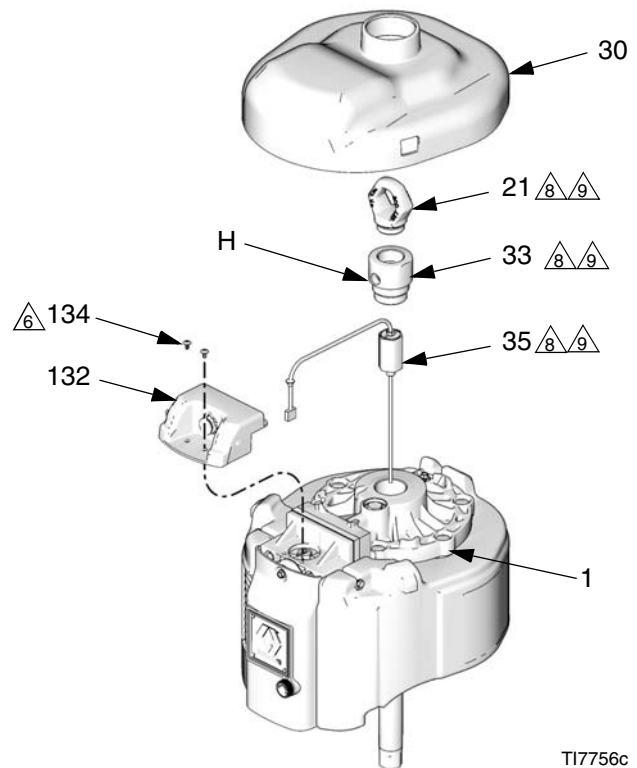

**FIG. 15. Sensor Cable Connection**
6. Remove the screws (43 and 41). Remove the air valve (40) by grasping the top and bottom and rotating the valve out from the right side, to pull the exhaust housing (E) out of the muffler (15). Replace the gaskets (46).
8. Lubricate the gaskets (46) and ensure they align with the holes at the back of the air valve (40). Install the air valve. Install the screws (41) and torque to 20 ft-lb (27.1 N•m). Thread the screws (43) in by hand, then fully tighten them against the muffler (15).
- a. **DataTrak Models:** Carefully slide the housing (132) onto the air valve. Thread the screws (134) in by hand, then torque to 100 in-lb (11.3 N•m). Reattach the solenoid and sensor cables to the DataTrak module (131), see page 14. Carefully slide the module back into the housing (132). Reinstall the two screws (135).
- b. **Linear Sensor Models:** Reconnect the sensor cable to the circuit board. See FIG. 15, page 26. Carefully slide the housing (132) onto the air valve. Thread the screws (134) in by hand, then torque to 100 in-lb (11.3 N•m).
- a. **DataTrak Models:** Remove the two screws (135). Carefully remove the DataTrak module (131), see page 14. Disconnect the runaway solenoid and sensor cables from the module board. Remove the two screws (134) and carefully slide the housing (132) off the air valve.
- b. **Linear Sensor Models:** Remove the screws (134) and carefully slide the housing (132) off the air valve. Disconnect the sensor cable from the circuit board. See FIG. 15 on page 26.
10. Reinstall the muffler (15). Fully tighten the screws (43) against the muffler.
11. Reinstall the outer valve cover (47).
13. Reinstall the top cover (30).
5. Remove the screws (134) and carefully slide the housing (132) off the air valve. Disconnect the sensor cable from the circuit board. See FIG. 15.
6. Thread the cable back through the hole (H) in the side of the adapter (33) and extend it out the top of the adapter.
7. Unscrew the adapter (33) and sensor (35). Lift the sensor straight up out of the air motor.
8. Apply thread adhesive to the new sensor housing. Screw the sensor (35) into the top cap (1). Torque to 30-36 ft-lb (40.6-48.8 N•m).
9. Apply thread adhesive to the adapter (33). Extend the sensor cable straight up out the top of the adapter, then screw the adapter into the top cap (1). Torque to 30-36 ft-lb (40.6-48.8 N•m).
10. Thread the sensor cable through the hole (H) in the side of the adapter, and reconnect it to the circuit board. See FIG. 15, page 26. Carefully slide the housing (132) onto the air valve. Thread the screws (134) in by hand, then torque to 100 in-lb (11.3 N•m).
11. Apply thread adhesive to the lift ring (21). Hold the adapter (33) with a wrench to keep it from turning, and torque the lift ring to 30-36 ft-lb (40.6-48.8 N•m).
12. Reinstall the top cover (30).